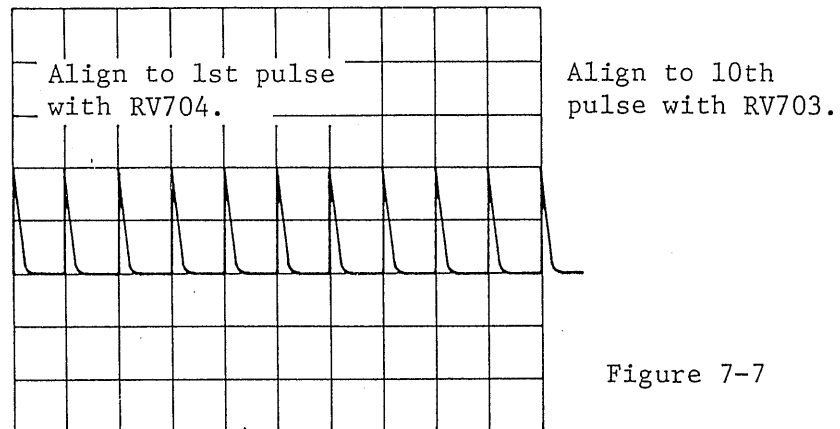
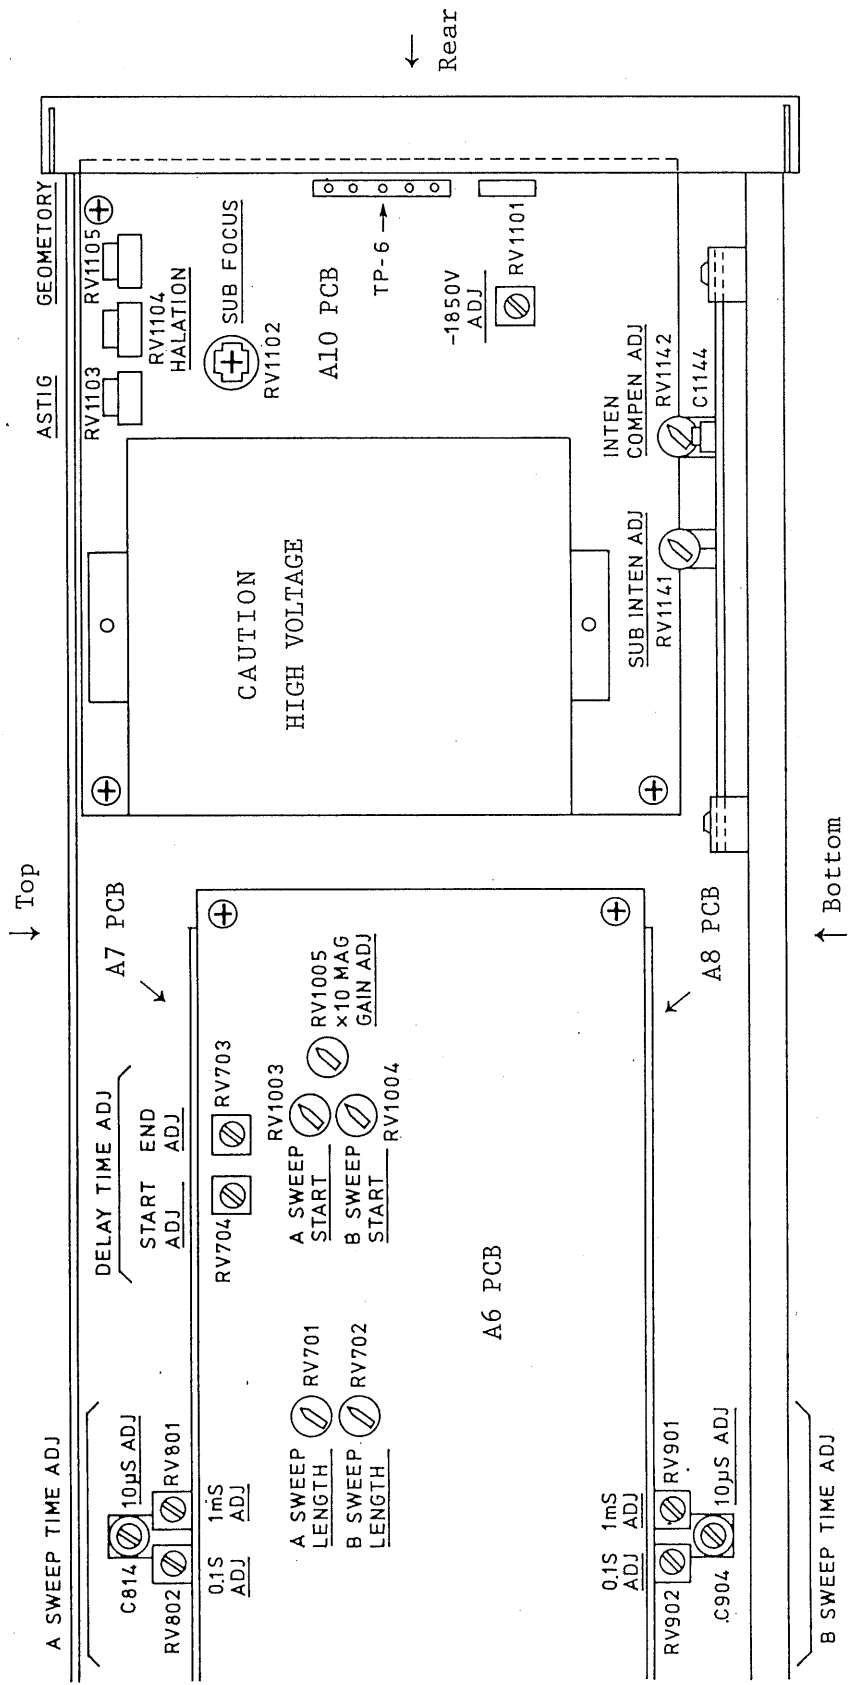

Figure 7-7
Figure 7-9 (Right hand side view)
- (1) Apply to the vertical input terminal a time marker signal of 0.1 sec or a signal of 10 Hz, and deflect the signal with an appropriate amplitude on the screen.
- (2) Set the VARIABLE knob (41) in the CAL'D position. Set the TIME/DIV switch (39) at 0.1 sec.
- (3) So adjust the 0.1S ADJ (Figure 7-9, RV802) that the displayed waveform conforms with scale divisions of the graticule.
- (4) Change the input signal to a time marker signal of 1 msec or sinusoidal wave signal of 1 kHz and change the TIME/DIV switch (39) to 1 msec.
- (5) So adjust the 1mS CAL (Figure 7-9, RV801) that the displayed signal waveform conforms with scale divisions of the graticule.
- (6) Next, change the input signal to a 10- μ sec time marker signal or a 100-kHz repetitive frequency signal and change the TIME/DIV switch indication to 10 μ S.
(7) So adjust C814 (Figure 7-9) that the displayed signal waveform conform with scale divisions of the graticule.
Calibrate the sweep time to the indicated values of the TIME/DIV switch (40). Adjust 0.1S and 1mS (Figure 7-9, RV902 and 901) and C904 (Figure 7-9) in a similar manner as that for the case of "Calibration of A sweep time."
This adjustment is for setting the lengths of the A and B sweeps at 11 DIV. Set the TIME/DIV switches (39) and (40) at 1 mS and apply a time marker signal of 1 msec or a signal of repetition frequency 1 kHz, and so adjust the A SWEEP LENGTH (Figure 7-9, RV701) and B SWEEP LENGTH (Figure 7-9, RV702) that the sweep length become 11 DIV.
- (1) Set the TIME/DIV switches (39) and (40) at 1 mS, set the DISPLAY switch (29) at ALT, and display both A and B sweeps on the screen.
- (2) So set the horizontal POSITION knobs (44) and (45) that their white dots are positioned upward (noon position). So adjust the A SWEEP START (Figure 7-9, RV1003) that the start point of the A sweep is brought to the left hand end of the graticule.
- (3) Next, with the B SWEEP START (Figure 7-9, RV1004), bring the start point of the B trace to left hand end of the graticule.
- (1) Apply to the vertical input terminal a time marker signal of 0.1 mS or a signal of 10 kHz and display the signal with an appropriate amplitude on the screen.
- (2) Set the VARIABLE knob (41) in the CAL'D position and the TIME/DIV switch (39) at 1 mS.
- (3) Turn on the $\times 10$ MAG switch and so adjust the $\times 10$ MAG GAIN ADJ (Figure 7-9, RV1005) that the displayed waveform conforms with scale divisions of the graticule.
- (1) Apply to the vertical input terminal a time marker signal of 1 mS and display the waveform with an appropriate amplitude on the screen.
- (2) Set the VARIABLE knob (41) in the CAL'D position, set the TIME/DIV switch (39) at 1 mS, set the TIME/DIV switch (40) at 10 μ S, and change the DISPLAY switch (29) to the A INTEN state.
- (3) Set the dial indication of the DELAY TIME MULTI at 1.00 and align the displayed waveform with the graticule.
- (4) So adjust the DT START (Figure 7-9, RV704) that the accentuated portion of the waveform is aligned to the initial pulse as shown in Figure 7-7.
- (5) Set the dial indication of the DELAY TIME MULTI at 10.00.
- (6) So adjust the DT END (Figure 7-9, RV703) that the accentuated portion of the waveform is aligned to the 10th pulse.